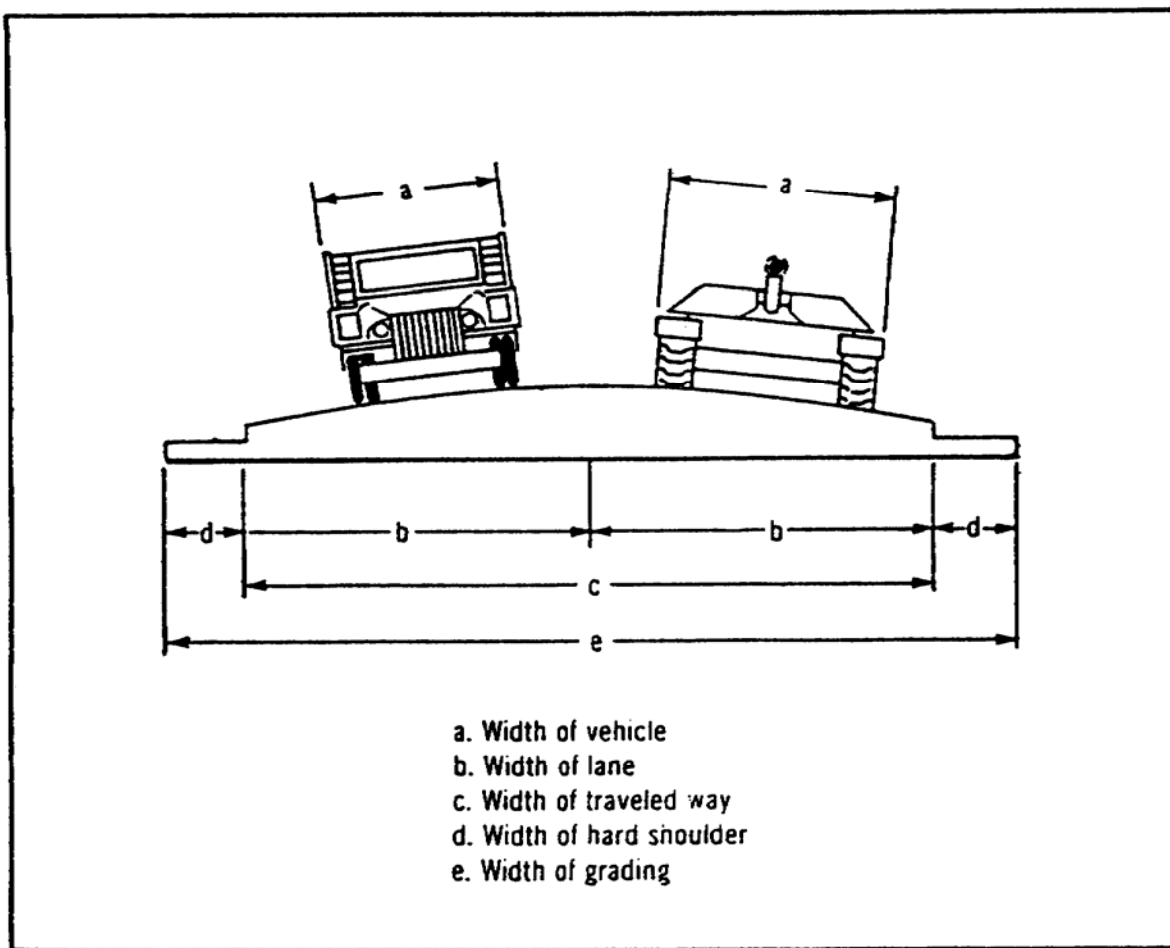

FIGURE 1-11. ROUTE WIDTHS.
b. Route Width. The width of the route, including bridges, tunnels, underpasses, and other constrictions, is the narrowest part of the traveled way. It is expressed in meters or feet (STANAG 2253). Route widths are illustrated in Figure 1-11.